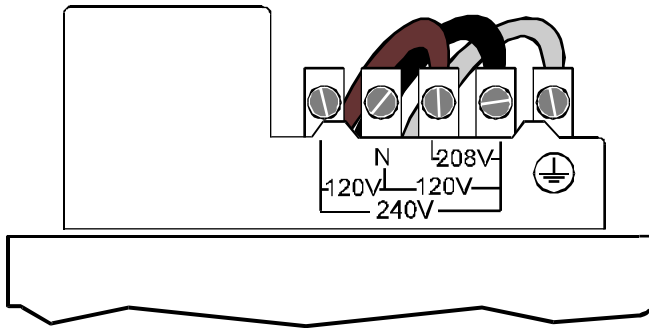
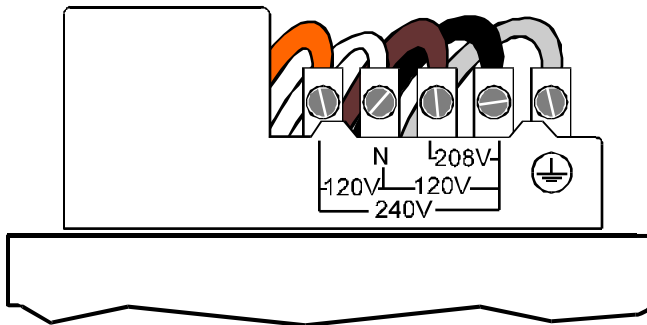

Figure 3.4.1
Figure 3.4.6
3.4.9 Choose the desired wiring connections from the illustrations on the following pages (Figure 3.4.1 through Figure 3.4.6). Insert the stripped wire ends into the appropriate output terminations block terminal and tighten the terminal screws.